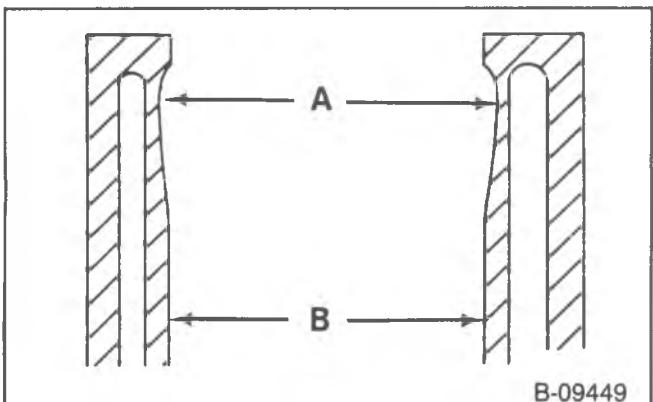

Figure 2—Typical Wear Pattern
2. Refer to figure 2. Measure dimension "A" at 13 mm (1/2-inch) below the head gasket surface. Measure dimension "B" at 100 mm (4-inches) below the head gasket surface.
2. Refer to figure 2. Measure for wear at the top of the bore (point "A"), and at the bottom (point "B").
2. Refer to figure 2. Measure for wear at the top of the bore (point "A") and at the bottom (point "B").